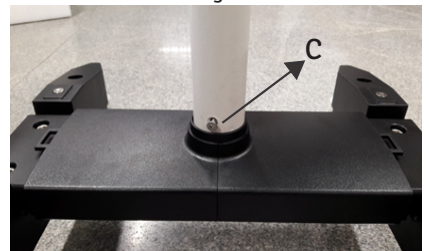

Fig 14
7.1a Tighten three Allen screws from the sides, shown as C in Fig 14.